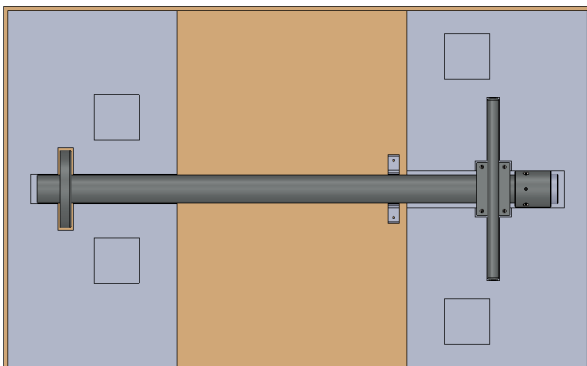

Figure 3
- Take base column from the packing box and remove all the four rubber caps available on the holes as shown in Figure 3.